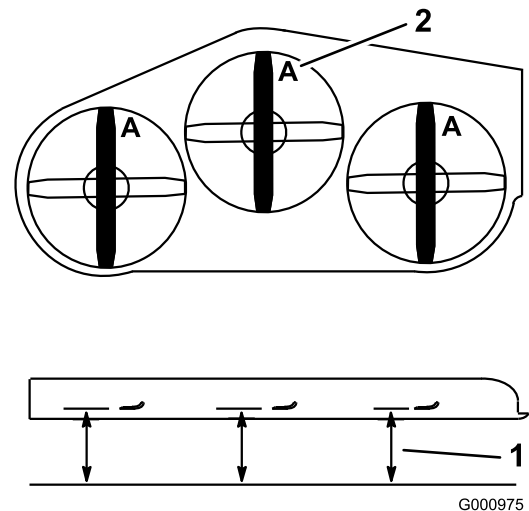

Figure 94
2. Measure from a level surface to the cutting edge, position A, of the blades (Figure 94).